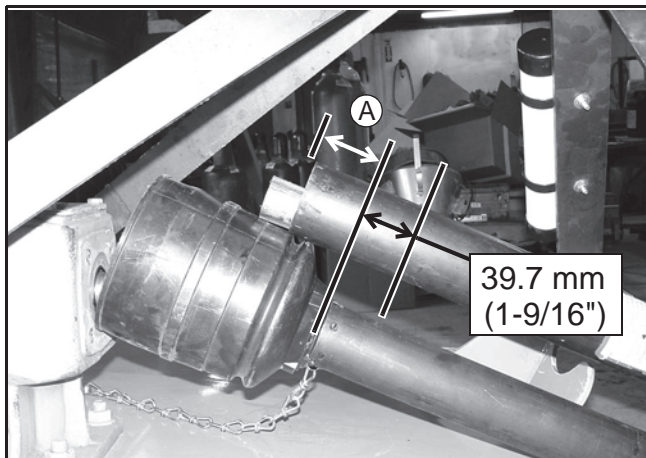

Figure 6. Determine Shield Length
3. Measure from end of the upper shield to the base of the bell on the lower shield (A). Add 39.7 mm (1-9/16") to dimension (A). See Figure 6.